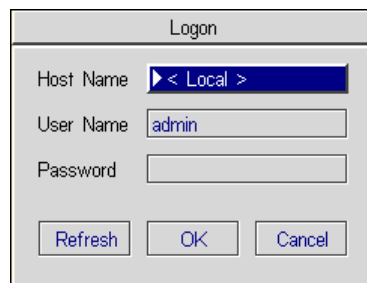

Figure 11. Logon Dialog
2. Open the System menu and click Logon to open the Logon dialog (Figure 11).